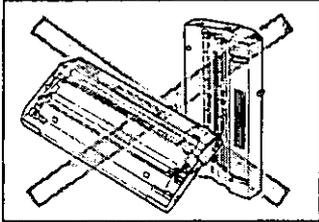

Fig. 1
- Do not stand on end or turn upside down. (Fig. 1)